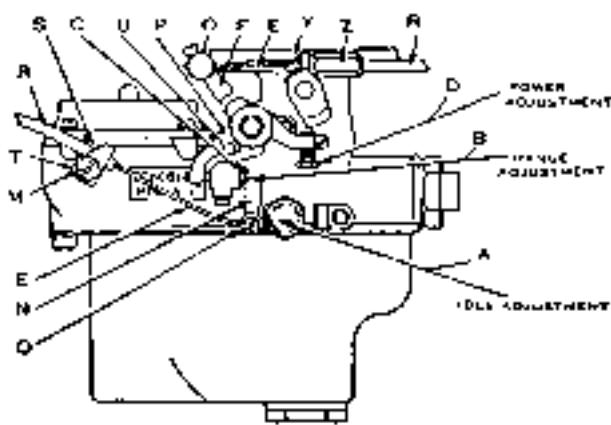

Fig. 9
Control Hook-up, Starting and Adjusting.—When using the loose lever (N, Fig. 9) the control tubing (R) is fastened in clamp (S) with screw (M) and the clip (T) on side of body just below the air funnel. Fasten the control wire (E) in the binding post (O) on loose lever (N) with the
Idle Adjustment.—Turn the idle adjusting knob (A, Fig. 9) to the right for a lean mixture, and to the left for a rich mixture. To check the idle adjustment, warm up the motor thoroughly and by this we mean to have a hot motor. Then close the throttle, retard the spark all the way if car has manual spark control and then adjust idle stop screw so that motor will not idle less than five miles per hour on the road. After you have the proper idle engine speed then proceed to check the idle adjustment as follows: Turn the idle adjusting screw (A) to the right (clockwise) turning slowly, watching the motor fan at the same time and continue to turn in this direction, which is the lean direction, until the fan falters or in other words is not turning with a smooth, constant motion. Just as soon as the fan falters stop turning the idle adjustment (A) to the right (lean) and from this point turn the idle adjustment back to the left or rich direction exactly 6 clicks for summer driving and 8 to 9 clicks for winter driving, clicks can be felt while turning the idle adjusting knob (A). This will give you an accurate setting on the idle adjustment providing you follow out all of these instructions just as we have outlined them.